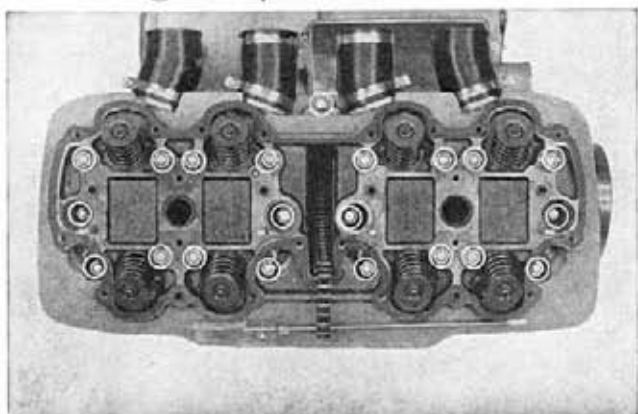
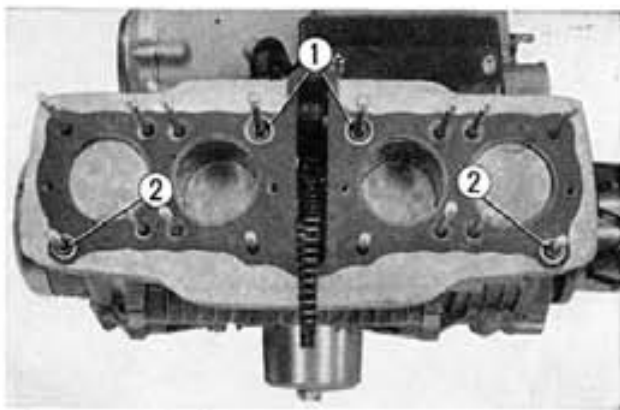
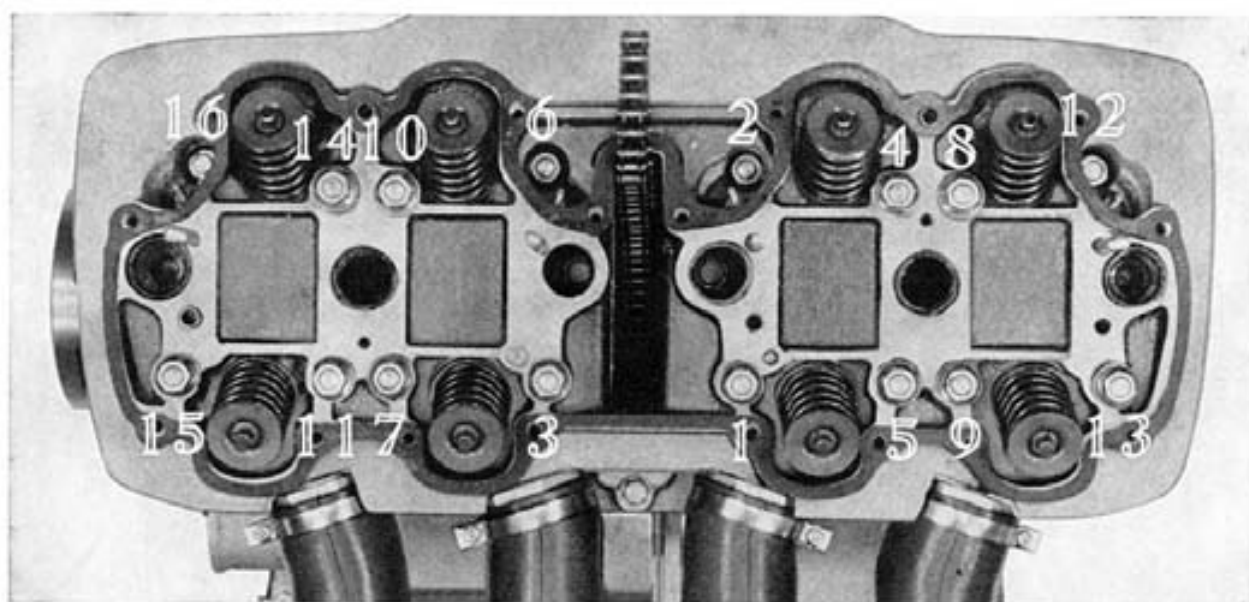

Fig. 3-27 Removing cylinder head mounting nuts and bolts
Fig. 3-37 ① "O" rings
Fig. 3-38 Tightening sequence
8. Remove the sixteen cylinder head mounting nuts, the five 6 mm mounting bolts and then separate the cylinder head from the cylinder. Use a special tool (Tool No. 07906-3230000) to loosen the 6 mm mounting bolts on both sides. Loosening sequence of the mounting nuts is performed in the reverse sequence indicated Fig. 3-38 on page 67. (Fig. 3-27)
3. On the cylinder gasket flange, assemble the two dowel pins, two O rings and the cylinder gasket, and then mount the cylinder head followed by installing and torquing the mounting nuts and bolts in accordance with Fig. 3-38. Torqued the nuts to 13.7~15.2 ft-lbs. (1.9~2.1 kg-m.) (Fig. 3-37, 38)
On the cars Engine No. 2352923 and after, a collar and oil seal (rubber) are inserted into between the cylinder and head at the points 4, 8, 5, 9, 14, 10, 11 and 7 in Fig. 3-38. **Note:** Install the oil seal onto the collar and insert them into the attaching hole in the cylinder.